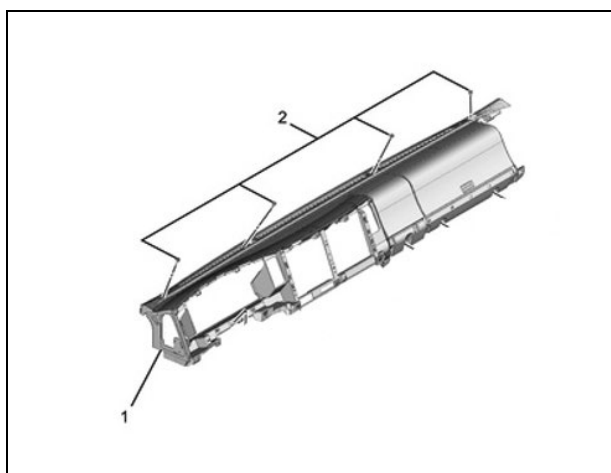

Figure 14
11. Remove the four (4) instrument panel (IP) mounting bolts. (See Figure 14.)